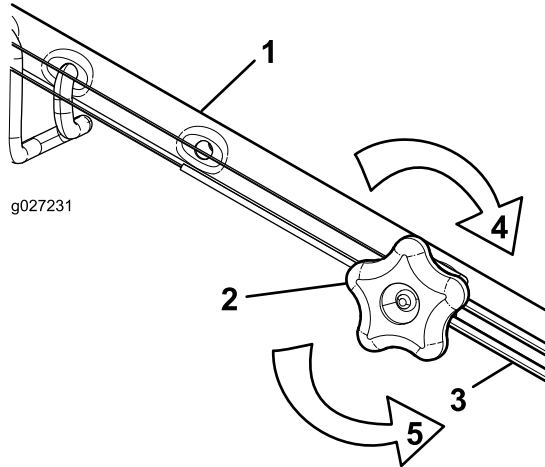

Figure 37
1. Turn the adjustment knob counterclockwise to loosen the cable adjustment (Figure 37).
2. Adjust the tension on the cable (Figure 37) by pulling it back or pushing it forward and holding that position.